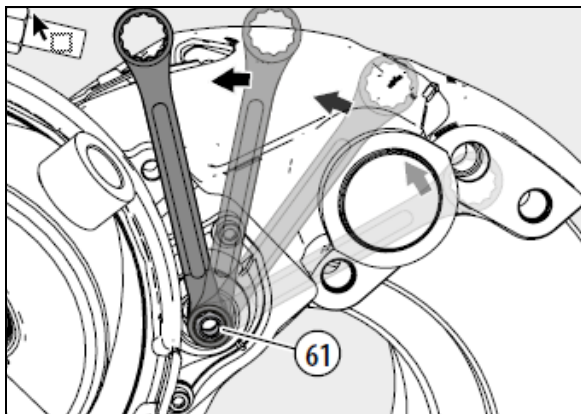

FIGURE 35: TURN ADAPTER 3 CLICKS ANTICLOCKWISE
15. As a visual aid, position a ring spanner or socket onto the adjuster (including Adapter (61)) as shown. Apply the brakes 5 to 10 times, the spanner or socket should turn clockwise (viewed from actuator side) in small increments if the adapter is functioning correctly (see Figure 35 and note below).